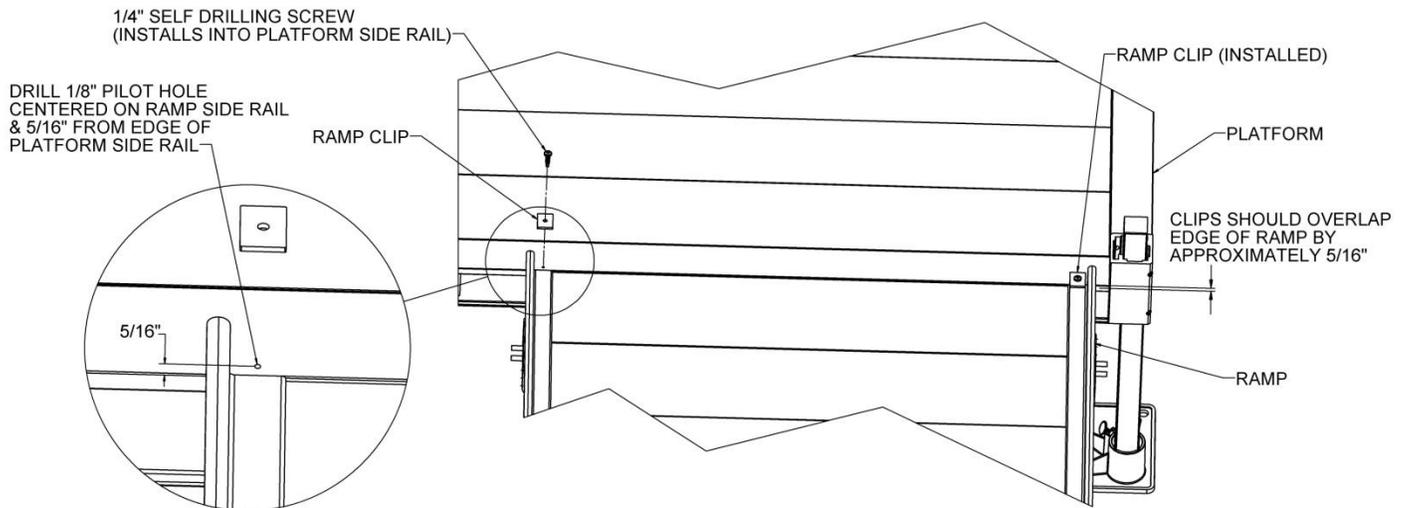

**FIG. 4.10**
- 4.5.1. Use plastic end caps when there are any remaining open ends on the handrails (FIG. 4.10). Push them on by hand or use a rubber mallet. If necessary, use construction adhesive to bond the cap to the ramp handrail.